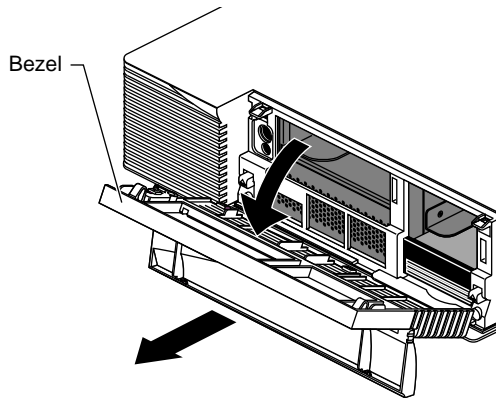

Figure 2-4 Removing the Bezel
- Pull the bezel down and away from the chassis (Figure 2-4).